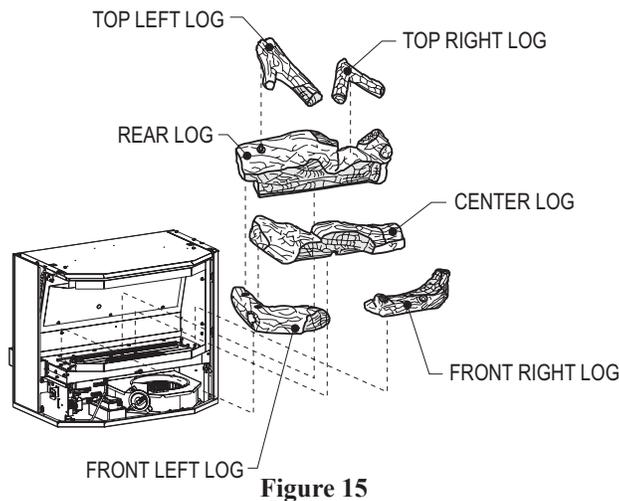

Figure 15
7. Position top left log into locating pin on rear log and rest on center log. See Figure 15.
8. Position top right log into locating slot on rear log. See Figure 15.